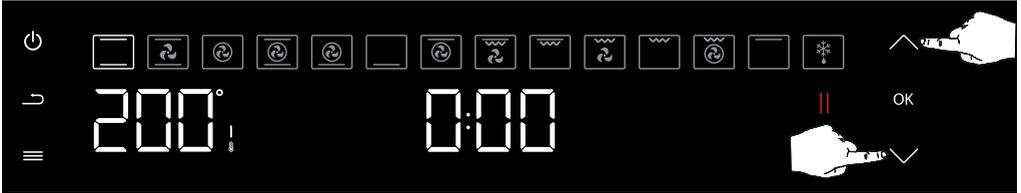

Figure 15
2. In the "Cooking" menu, the display of the active setting first changes to the cooking functions, which can be switched between by pressing the direction keys up (▲) or down (▼). (see figure 15) Press the confirm button (OK) once to select the desired cooking function.